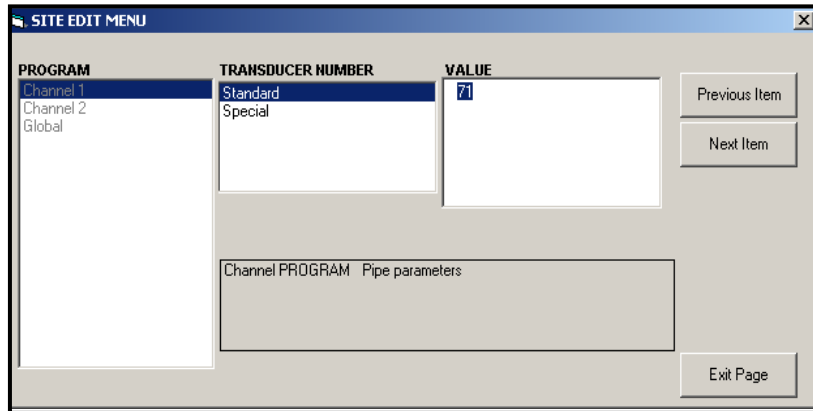

Figure 43: The Pipe Parameters Option in the *Site Edit Menu*
- a. Highlight and double-click on the desired option in the center pane. Figure 43 on page 27 shows the first entry (Transducer Number) in the *Pipe Parameters* option. The title above the center pane lists the current entry, while the center pane displays the available selections for that entry.